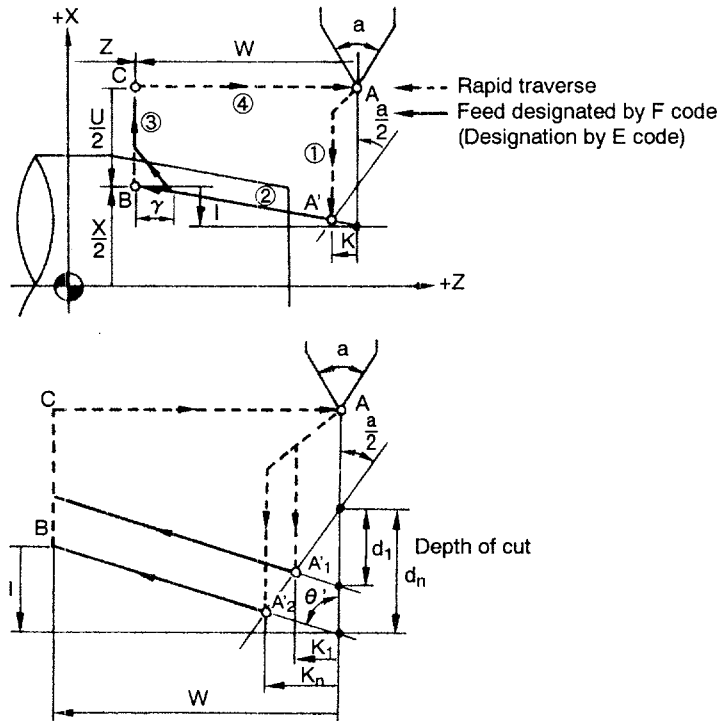

Fig. 4.12 Tapered Thread Cutting Cycle (In-feed Along Thread Angle)
With the commands of “G92 X(U) . . . Z(W) . . . I . . . K . . . F(E) . . . ;”, tapered thread cutting cycle of ① to ④ as shown in Fig. 4.12 is executed. In-feed is made along the angle of thread. The sign of address K is determined by the direction viewing point A' from point A.